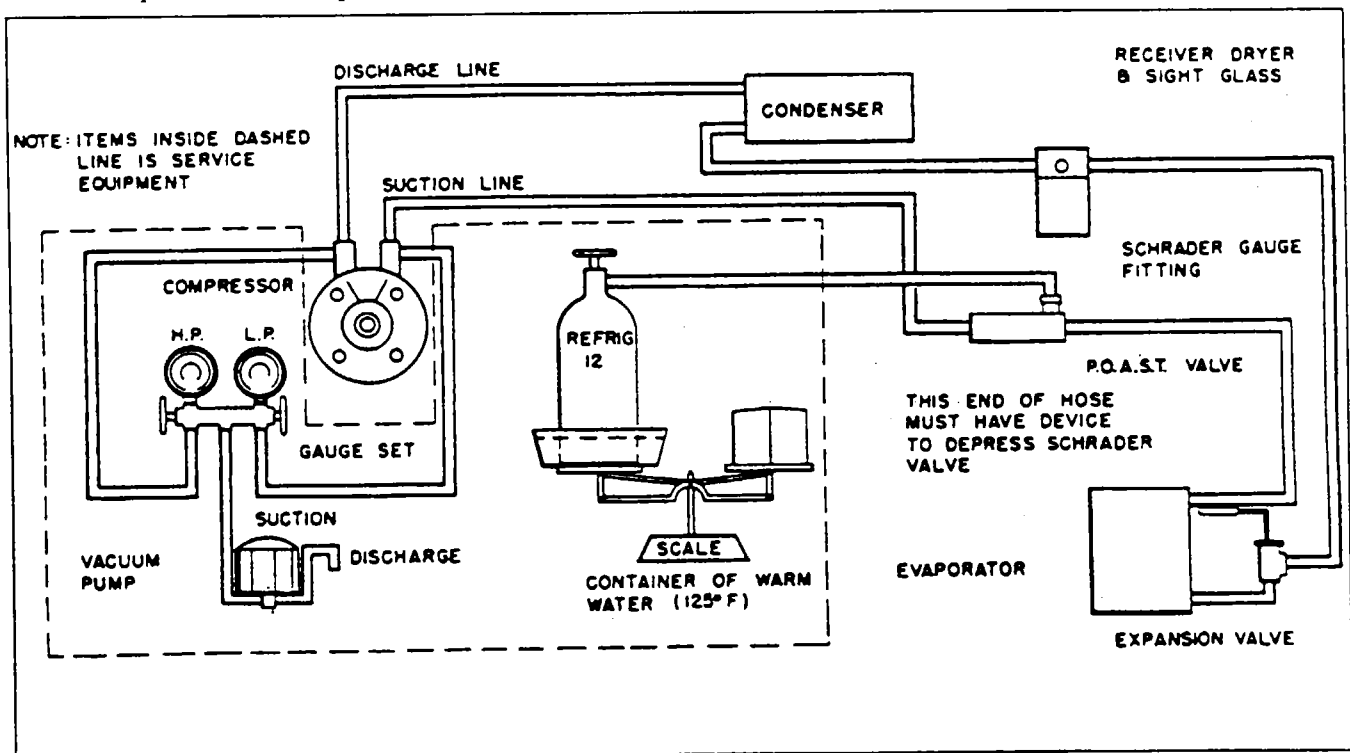

Figure 21-26. Charging Hookup (Typical)
1. With the system discharged and evacuated, proceed to hook-up the charging stand. (Refer to Figure 21-26.)
2. Connect a charging hose to a refrigerant cylinder and also to the Schrader gauge fitting on the evaporator control valve. (Refer to Figure 21-26.)